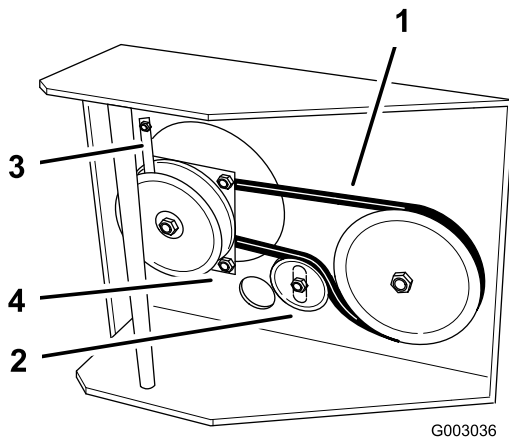

Figure 43
8. Unhook the clutch retainer from the clutch and remove the retainer (Figure 43).
9. Loosen the idler mounting bolt enough to move the idler pulley and remove the traction belt from the drive pulley and clutch (Figure 43).
11. Hook the clutch retainer into the clutch and secure it to the frame with the engine mounting bolt (Figure 43).
12. Torque pivot bolt to 170-220 in-lb (19-24 N·m) (Figure 43).